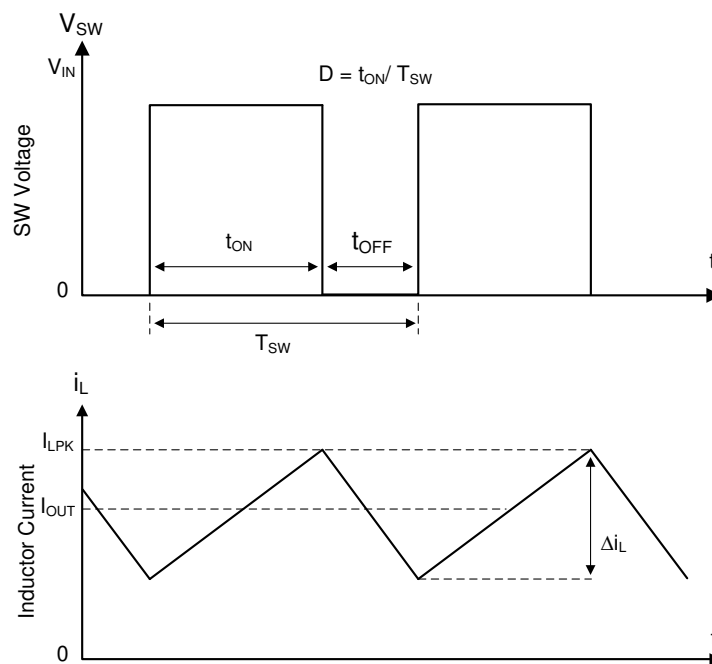

図 7-1. SW Node and Inductor Current Waveforms in Continuous Conduction Mode (CCM)
The following operating description of the LMR514xx refers to the Functional Block Diagram and to the waveforms in Figure 7-1. The LMR514xx is a step-down synchronous buck converter with integrated high-side (HS) and low-side (LS) switches (synchronous rectifier). The LMR514xx supplies a regulated output voltage by turning on the high-side and low-side NMOS switches with controlled duty cycle. During high-side switch ON time, the SW pin voltage swings up to approximately V_{IN} , and the inductor current, i_L , increases with a linear slope of $(V_{IN} - V_{OUT}) / L$. When the high-side switch is turned off by the control logic, the low-side switch is turned on after an anti-shoot-through dead time. Inductor current discharges through the low-side switch with a slope of $-V_{OUT} / L$. The control parameter of a buck converter is defined as Duty Cycle $D = t_{ON} / T_{SW}$, where t_{ON} is the high-side switch ON time and T_{SW} is the switching period. The converter control loop maintains a constant output voltage by adjusting the duty cycle D . In an ideal buck converter, where losses are ignored, D is proportional to the output voltage and inversely proportional to the input voltage: $D = V_{OUT} / V_{IN}$.